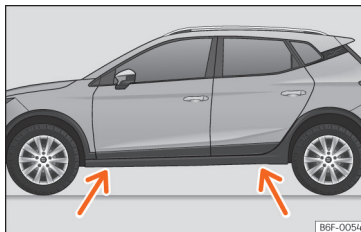

Fig. 39 Jack position points.
- Find the support point on the strut (sunken area) closest to the wheel to be changed » Fig. 39.